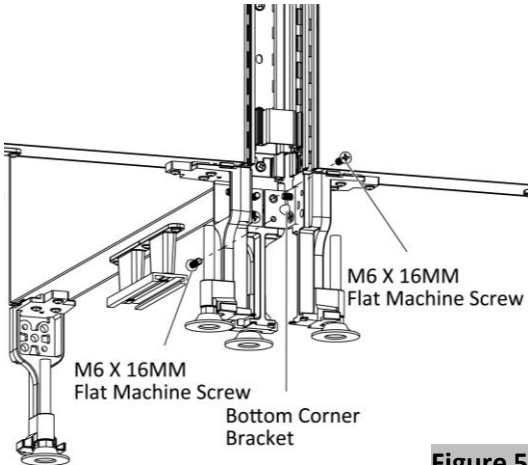

Figure 5
- 10. Secure the base with two M6 X 16MM Flat Machine Screws, (Figure 5).